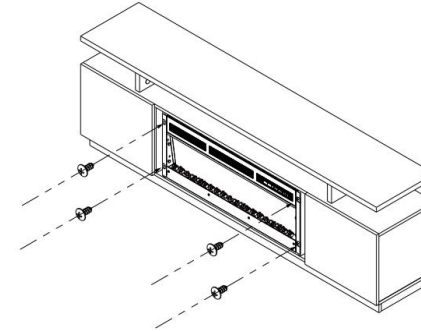

Fig.3
- For optimum viewing, mark the left and right screws (fixing positions on the wall in accordance with the appliance's holes; See Fig.3